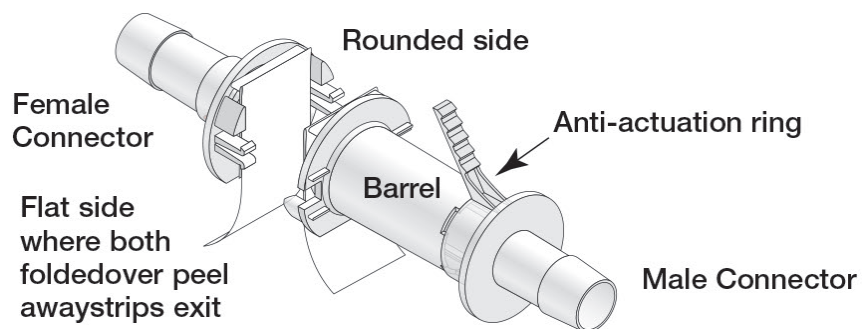

Figure 5.37. Aligning male and female connectors.
- Hold the barrel of the larger (male) connector above the base. Align the smaller (female) connector with the male connector. The flat sides should be aligned, and both peel-away strips must remain folded (Figure 5.37). **Note:** If the Kleenpak connectors are not aligned properly, the connection cannot be made.